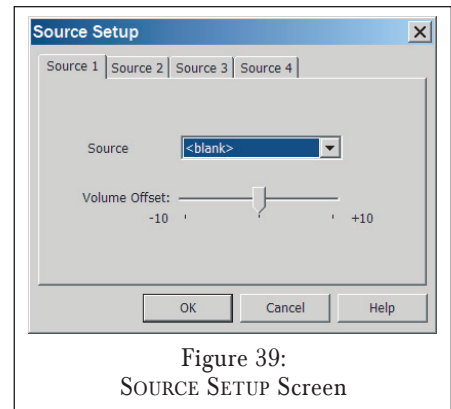

Figure 39:
1. Open the DEVICE menu and select SOURCE SETUP. The SOURCE SETUP screen (Figure 39) will appear.